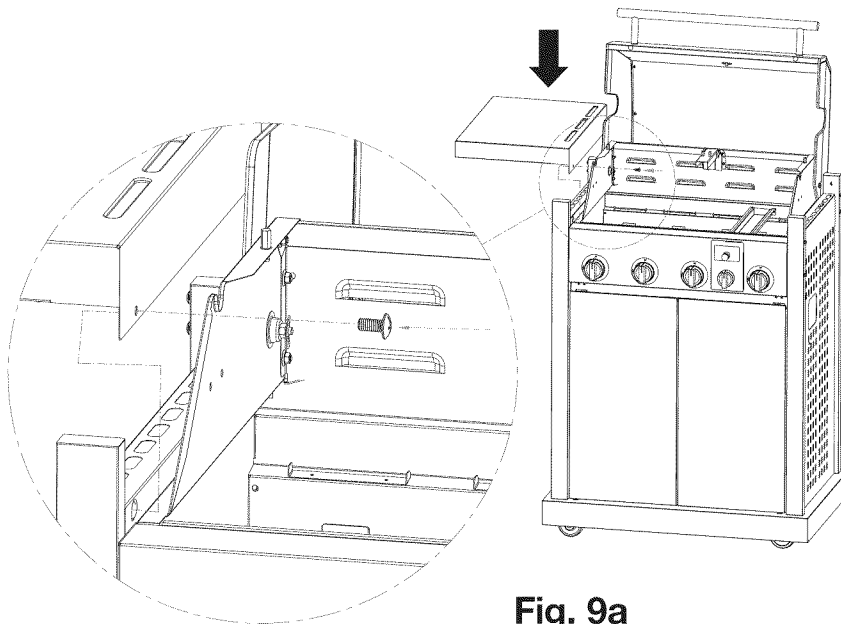

Fig. 9a
1. Hang shelf onto left front and left back legs as shown in **Fig. 9a**.
- Open lid. Attach left shelf to the left-side panel from inside to outside of the firebox with one (1) M6 x 13 (S.S.) screw as shown in **Fig. 9a**.